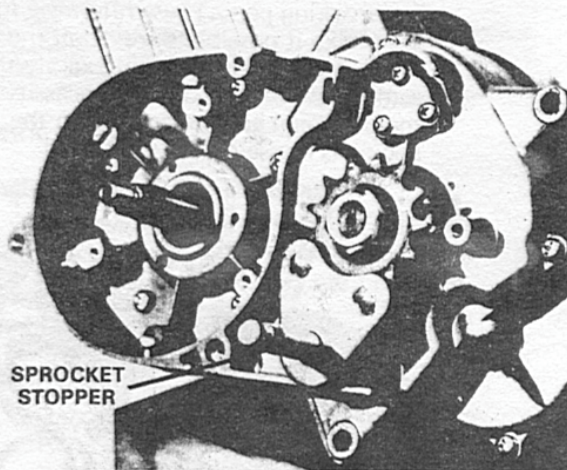

Fig. 8
31. Flatten the bend washer under the sprocket retaining nut and install the sprocket stopper (special tool). Remove this nut. The sprocket stopper and sprocket are then removed. (Figure 8)